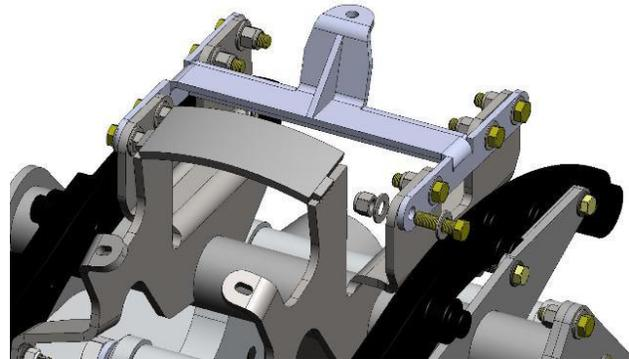

**Figure 25**
- Ensure proper alignment of exhaust components. Secure mufflers to muffler brackets using supplied hardware. **Figure 25**